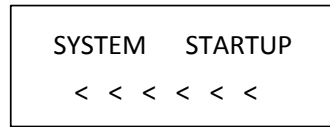

Figure 3.1.1
1. **Self-Detecting:** The first line on the LCD display shows "SYSTEM STARTUP". The second line shows "<" and "<" increases successively till it fills the screen with a sound "di". If keyboard sound is turned on, "<" increases successively with sound "di,di..." (Figure 3.1.1)